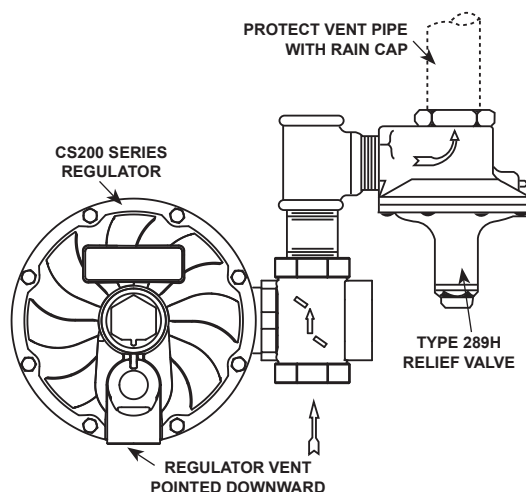

Figure 4. CS200 Series Regulator Installed with Vent Pointed Downward and with a Type 289H Relief Valve for High Capacity Relief
All vents should be kept open to permit free flow of gas to the atmosphere. Protect openings against entrance of rain, snow, insects, or any other foreign material that may plug the vent or vent line. On outdoor installations, point the spring case vent downward to allow condensate to drain (see Figure 4). This minimizes the possibility of freezing and of water or other
- **Install the regulator with the vent pointed vertically down, see Figure 4.** If the vent cannot be installed in a vertically down position, the regulator must be installed under a separate protective cover. Installing the regulator with the vent down allows condensation to drain, minimizes the entry of water or other debris from entering the vent, and minimizes vent blockage from freezing precipitation.
If the regulator is used in conjunction with a Type 289H relief valve, it should be installed as shown in Figure 4. The outside end of the vent line should be protected with a rainproof assembly.